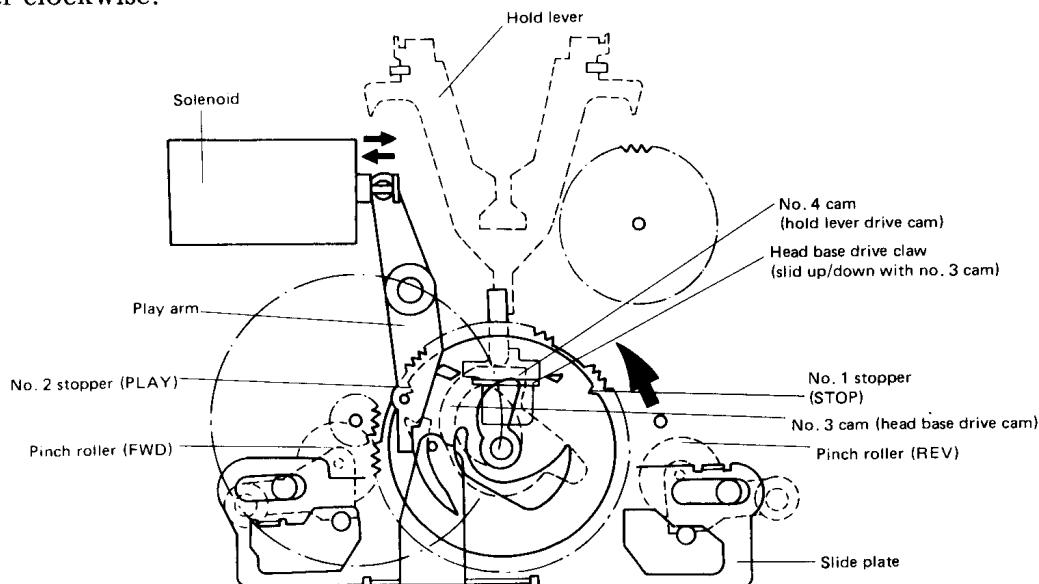

Fig. 10-4 Change from stop to forward playback mode
- (1) When the FWD PLAY button is pressed, current is passed to the capstan motor and the solenoid which is activated (current applied for 60ms) to turn the play arm counter clockwise.
- (2) Since the play arm is thus disengaged from the no. 1 cam gear stopper, the cam gear is forced counter clockwise by the hold lever to engage and consequently be driven by the capstan gear.
- (3) As a result of the rotational movement of the play arm and cam gear, the slide plate pin moves along route no. 1 (.....>).
- (4) Cam gear rotation also results in no. 3 cam pushing the head base drive claw upwards.
- (5) When the cam gear has been rotated by about  $235^\circ$ , no. 2 stopper on the cam gear meets the play arm pin and is subsequently stopped with the deck now in forward playback mode (see Fig. 10-4). In this condition,
- (1) If the STOP key is pressed when changing from forward playback to music search mode, the solenoid is deactivated and the play arm pin is disengaged from no. 3 cam gear stopper, resulting in the cam gear being forced counter clockwise by the head base.
- (2) Since the hold lever is released from no. 4 cam when the cam gear is rotated, the hold lever is dropped suddenly resulting in the two hold lever prongs engaging the reel drive gear (FWD, REV) to apply the brake.
(3) The cam gear rotation also results in the head base and pinch roller being dropped to the STOP position by no. 3 cam.
- (4) After the cam gear has been rotated by about 105°, the play arm pin meets no. 1 stopper bringing the cam gear to a stop and putting the deck into stop mode (see Fig. 10-4). In this condition, the brake is released by no. 4 cam.